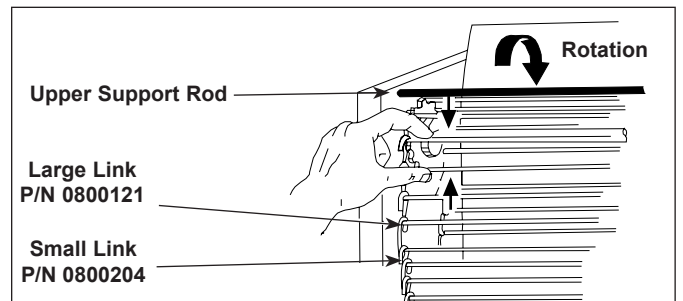

Figure 10. Removing Conveyor Belt Chain
9. Disconnect the Conveyor Belt Chain by squeezing any two links together and unhooking both ends one link (Figure 10). Needle-nose pliers may be used.
5. Disconnect the Conveyor Belt Chain by squeezing any two links together and unhooking both ends of one link (Figure 10).
NOTE: The ends of the hooks must point down (Figure 10).